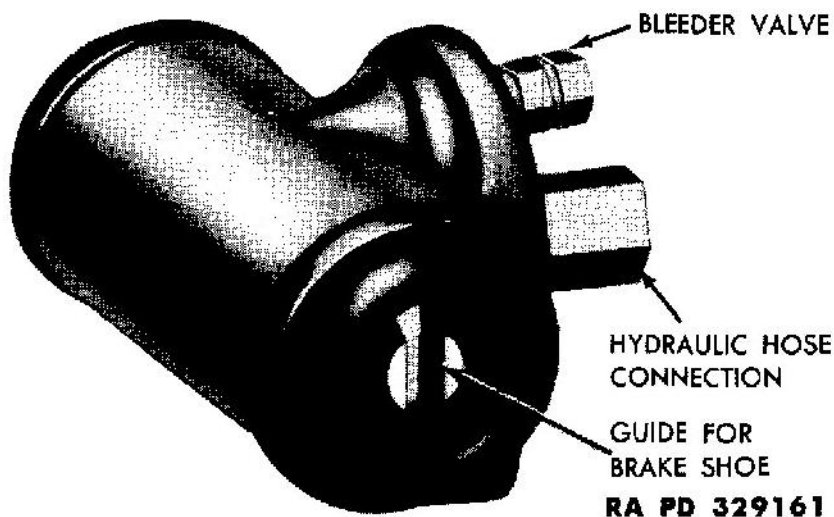

Figure 79 – Wheel Slave Cylinder
a. **Description** (fig. 79). A slave cylinder is provided at each wheel brake. The slave cylinders operate the brake shoes when hydraulic pressure from the master cylinder is applied to them.